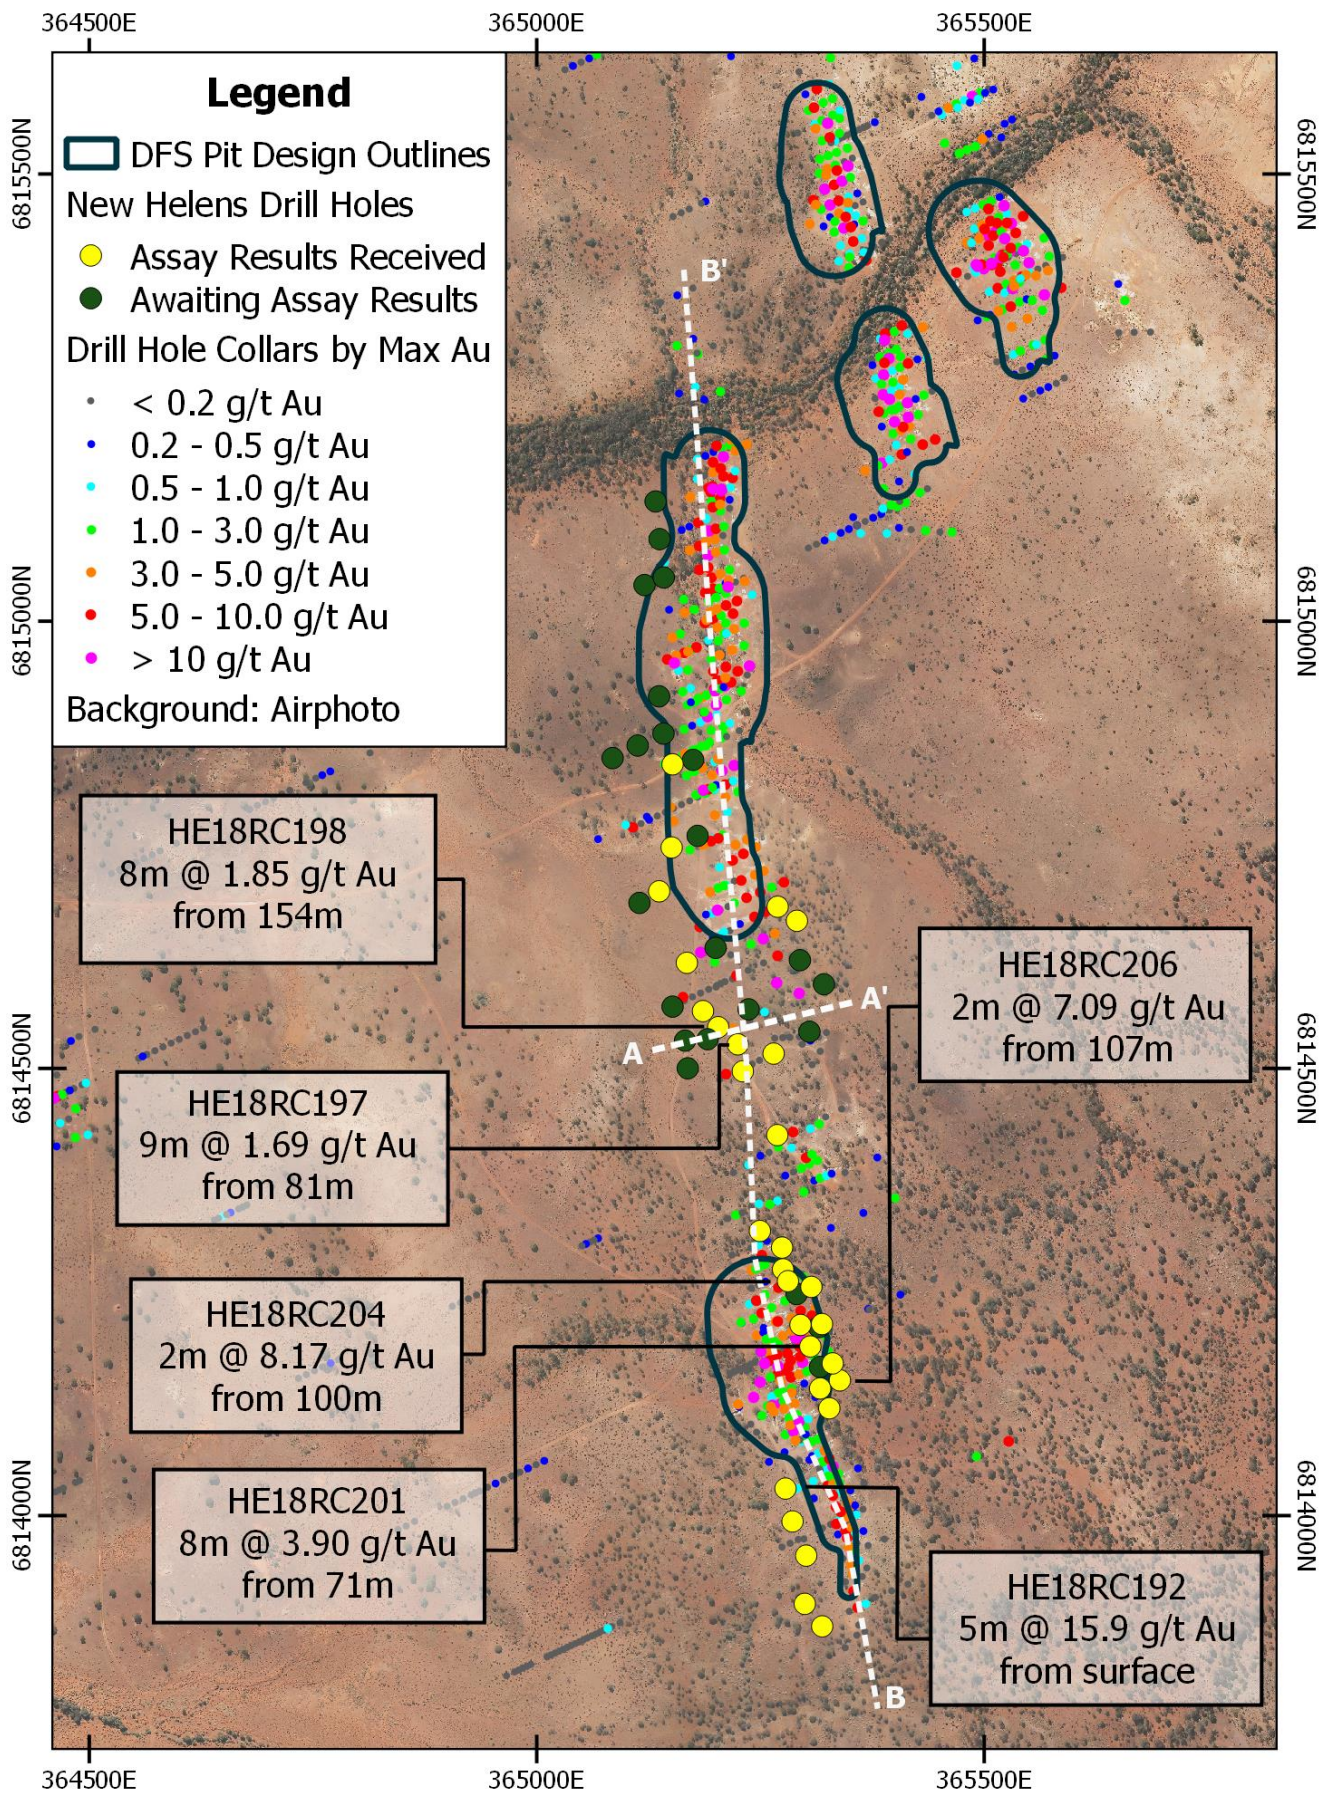

Figure 2. Drill hole plan of Helens and Helens South deposits with recent significant intersection.
Reverse Circulation (RC) and Diamond Core (DC) drilling has continued to intersect zones of higher than average grade gold mineralisation associated with altered and sulphide-rich shear zones in mafic rocks at both Helens Main and Helens South. See Table 1 and Figures 2, 3 and 4.
A number of drill holes, particularly at Helens Main have been completed with assay results awaited. These holes (see Figure 2 for collar locations) have intersected the mineralised shear positions between 100m and 150m below surface and will provide a broader understanding of the extent of the Helens Main Shoot. Stage 2 drilling will target infill of this area once confirmed.